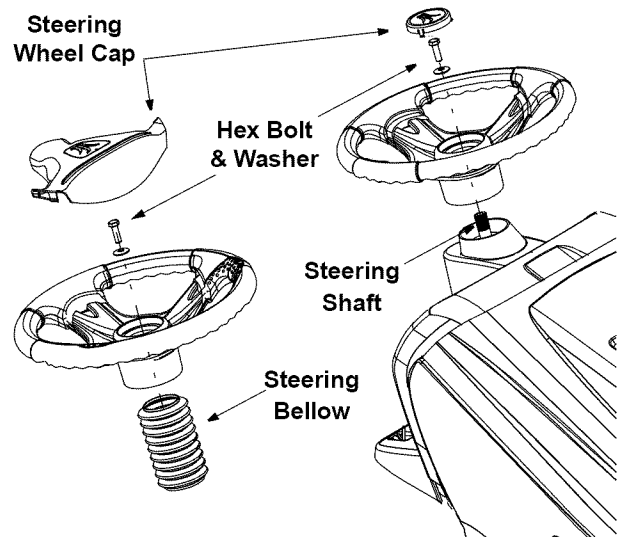

Figure 2
**NOTE:** There are two different styles of steering wheel cap. See Figure 2. **Styles vary by model.**
2. **Models with steering bellow only:** Remove the steering bellow from its packaged location on the PTO (blade engage) lever (on the right side of tractor). Place the steering bellow over the steering shaft extending through the dash. See Figure 2.
3. With the wheels of the tractor pointing straight forward, place the steering wheel over the steering shaft. Place the washer (with the cupped side down) over the steering shaft and secure with the hex bolt. See Figure 2.